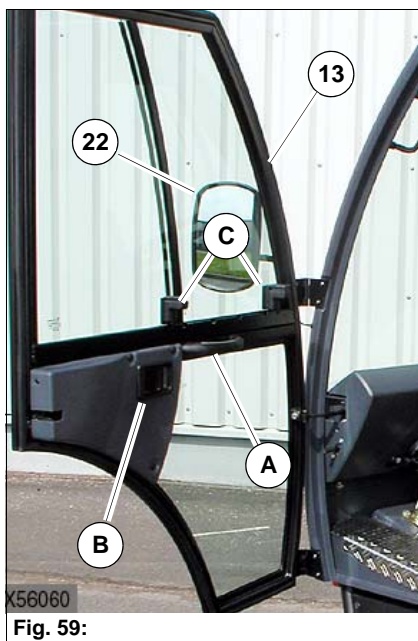

Fig. 59:
- Always use the handles **Fig. 59-A** when closing the doors!
Pull the lever **Fig. 59-B** upwards and open the door from the inside.
The left and right side windows are opened or closed with the catches **Fig. 59-C**. Push the catches up and move the window correspondingly.